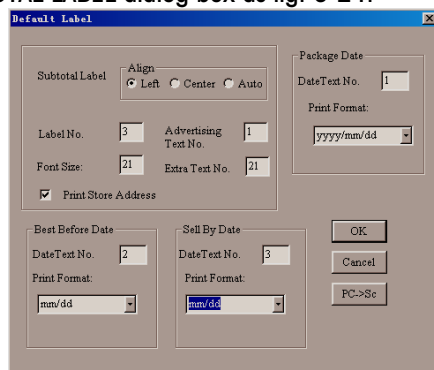

Fig. 6-24
- Here will show the TOTAL LABEL dialog box as fig. 6-24.